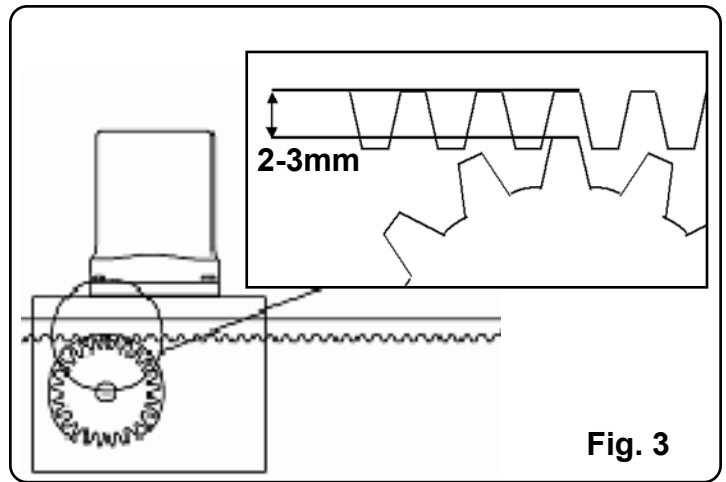

Fig. 3
- Also check that the runner on the ground (**Fig. 1**) is not deformed, is perfectly level and that the mechanical stop is present on opening (**Fig. 2**) in order to prevent the gate from going beyond the upper runners (**Fig. 3**)
- Check the upper runner (**see Fig. 3**) is firm and the gate slides freely.
Fasten the rack to the gate firmly, leaving a distance of between 2 and 3 mm from the motor pinion (Fig.3).